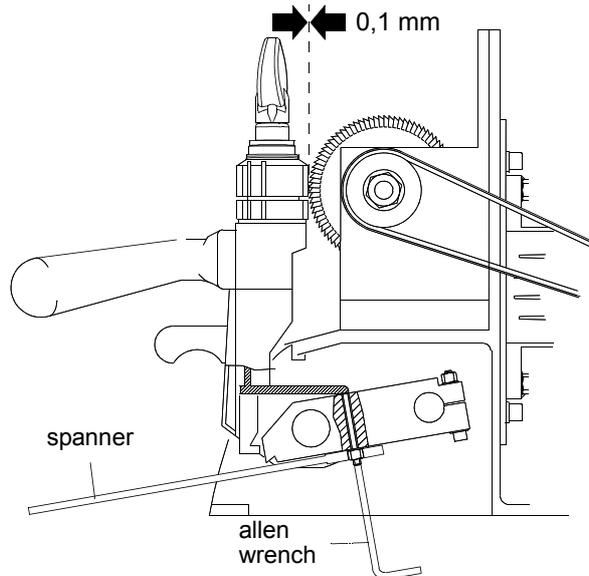

Fig. 25
- 1) Release the carriage, raise against the cutting tool and take to the end of its run (fig. 25).
- 2) Remove the chippings tray (C) and tool holder (C1).
- 3) Release the nut with the spanner (fig. 25).